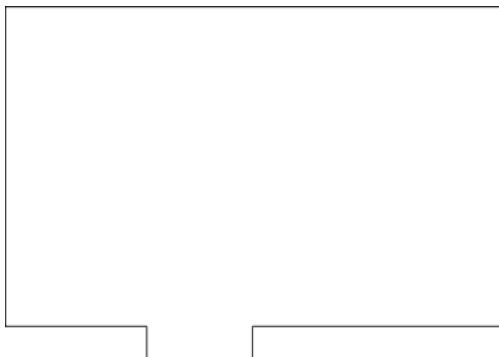

FIGURE 4.11 The polyline after trimming the original and then joining the remaining entities
10. Pick the other polyline and press ↵ twice—first to join the two polylines and then to end the command. Your drawing now consists of a single polyline made up of eight segments, as shown in Figure 4.11.